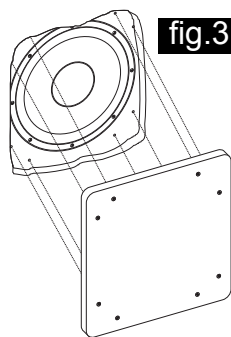

fig.3
7. Once the drywall and paint are complete, remove the wood cover and attach the bezel to the enclosure via the (8) 8 X 2" panhead screws (fig. 3). Tighten screws snugly, making sure not to over-tighten, as this may compromise the fit of the bezel. **DO NOT USE** a power screwdriver for this. The foam strips on the drywall side of the bezel frame reduce unwanted vibrations against the drywall and will compress slightly to allow the bezel frame to rest flush against the wall.